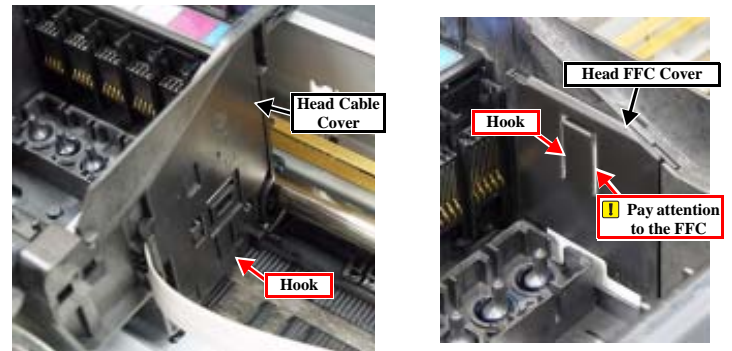

Figure 4-30. Removing the FFC Cover
6. At the right side of the Carriage Assy, release the hook of the Head Cable Cover, and remove the Head Cable Cover by sliding it downward. (Fig. 4-30)
7. Insert a slotted screwdriver under the hook of the Head FFC Cover, and move it upward and remove the Head FFC Cover. (Fig. 4-30)